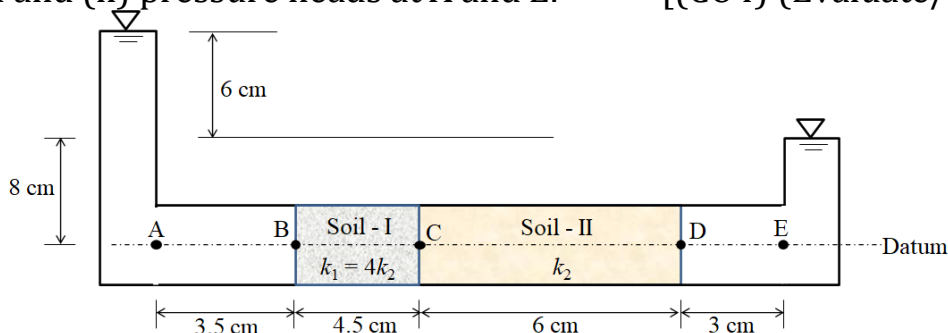

Figure 1
- (b) The horizontal cylinder of soil is shown in Fig. 1. Determine (i) head loss in soil - I and II and (ii) pressure heads at A and E. [(CO4) (Evaluate/HOCQ)]